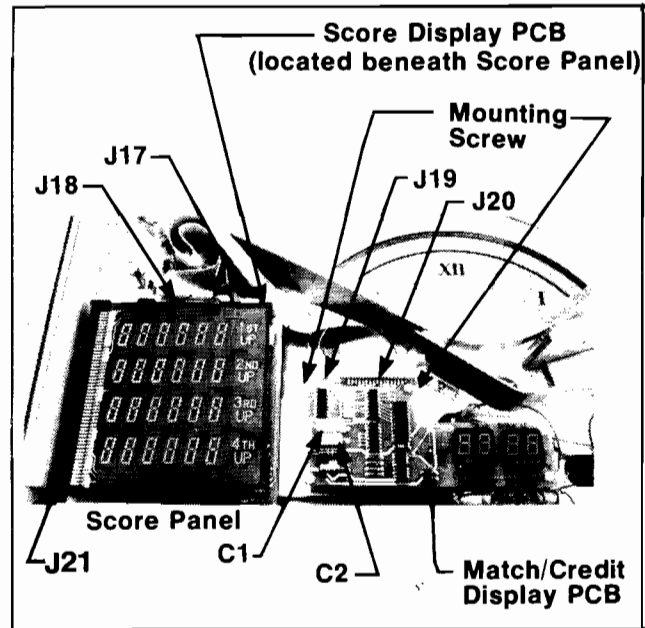

Figure 18 Top View of Score and Match/Credit Display Assembly
- 3) Remove the Lower Arch Panel. The displays will now be exposed as shown in Figure 18.
- 3) Connect a voltmeter across the following capacitors shown in Figure 18, and check for the readings listed below: